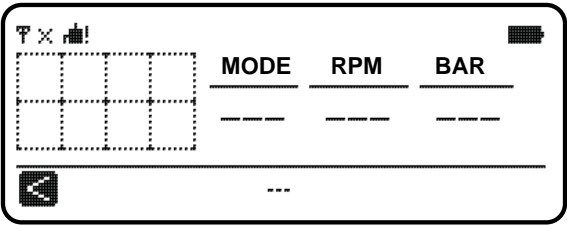

Fig. 33
3. If the MOTORMATIC controller is powered off or is not connected, the following screen will appear (Fig. 33);